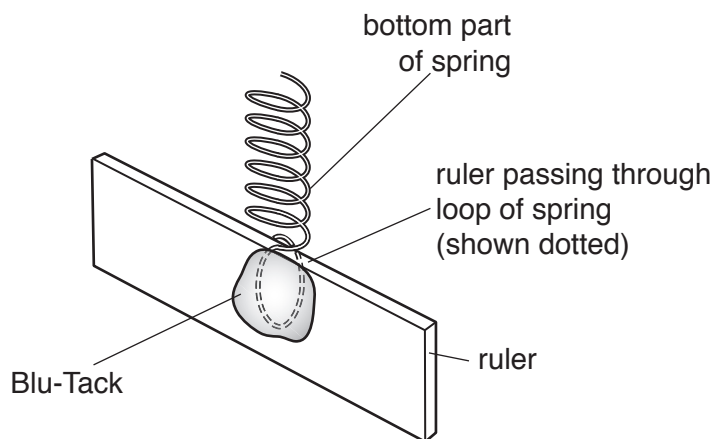
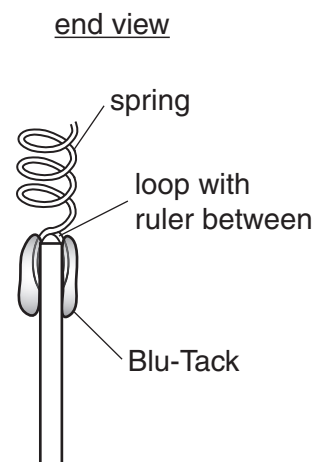

Fig. 2.1
Fig. 2.2
1. The Supervisor should use the two pieces of Blu-Tack, one each side of the ruler, to secure the loop at one end of the spring to the centre of the ruler. The centre of the loop should be in the centre of the ruler. This is shown in Fig. 2.1 and Fig. 2.2.